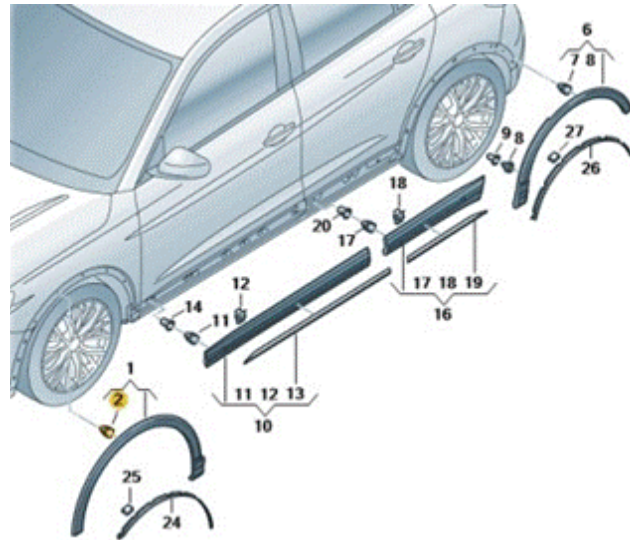

Figure 5. Front wheel arch trim clip location.
- Replace all the clips on the affected front wheel arch trim. The wheel arch trim does not need to be replaced (Figure 5).